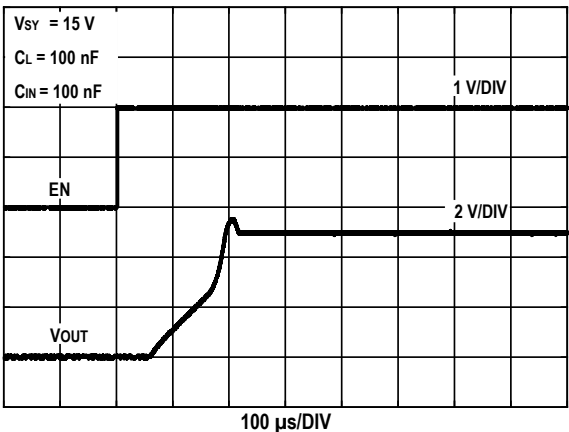
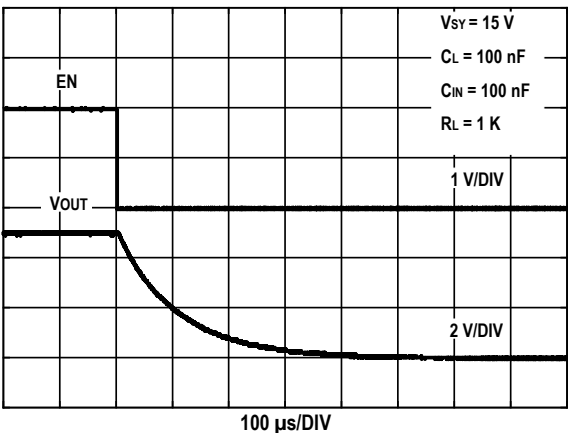

Figure 11. Enable Response
Figure 12. Disable Response
For power consumption sensitive applications, ZJR1004 offers useful shut down feature. The part burns just $10\ \mu\text{A}$ in shutdown mode, the shutdown procedure can be found in Figure 11 and Figure 12. Shutdown mode is controlled by pin 3 (EN). The voltage threshold of this pin is around $1.2\ \text{V}$ and compatible with CMOS/TTL logic.